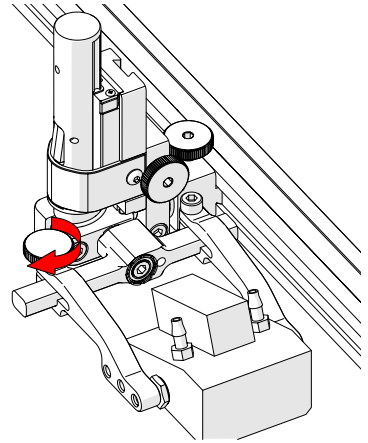

Fig. 105 - Tighten arm knob
6. Tighten the probe holder arm adjustment knob (Fig. 105).